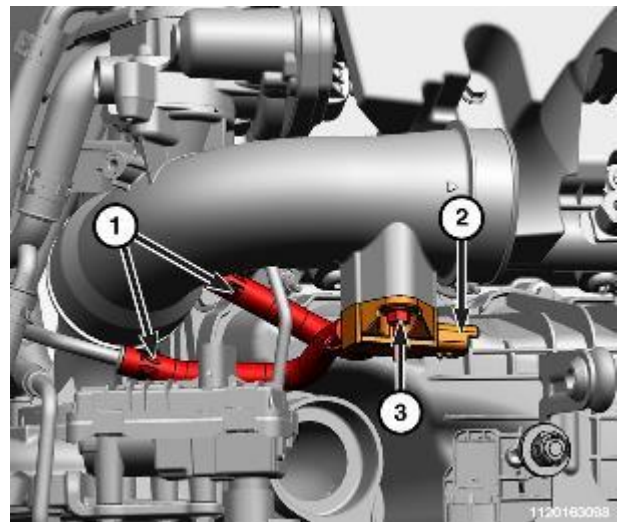

Figure 112 – Differential Pressure Sensor
- 38. Disconnect the differential pressure sensor hoses (1) (Figure 112).
- 39. Remove the differential pressure sensor nut (3) and the differential pressure sensor (2) (Figure 112).